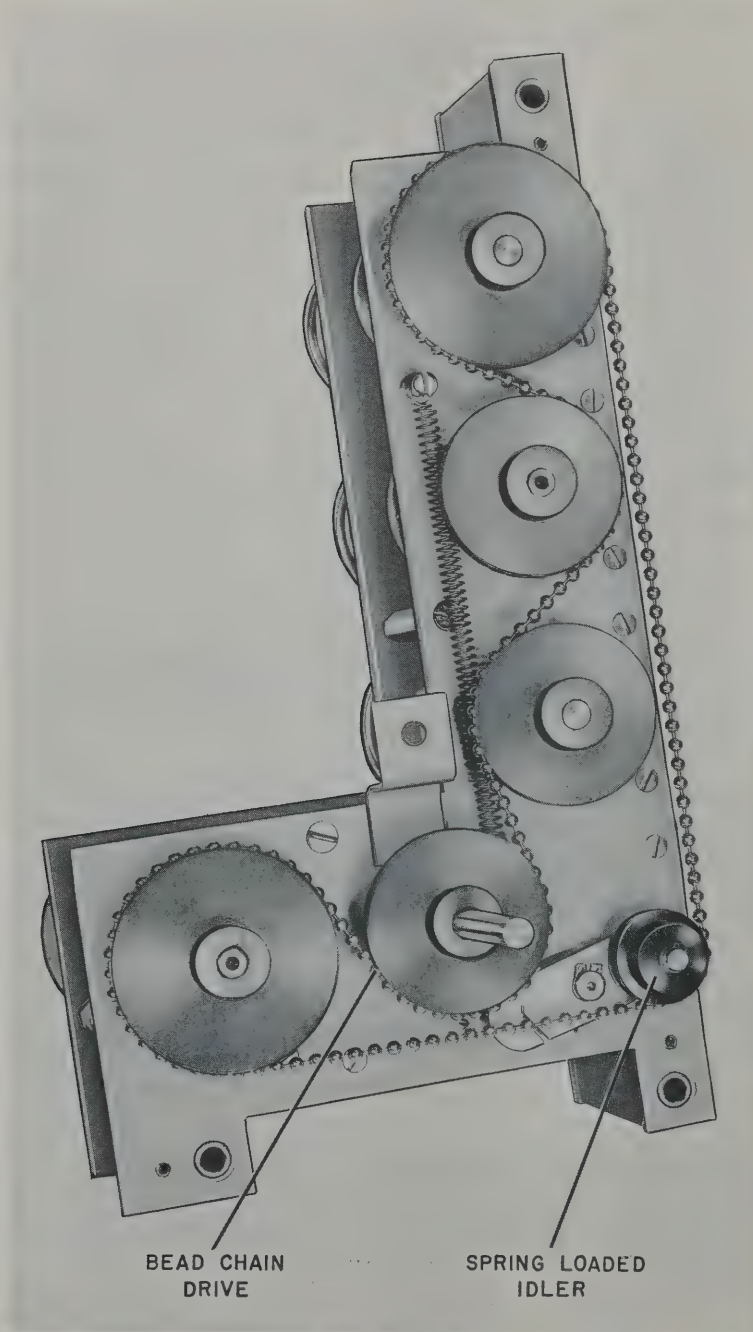

Figure 5-8. Magnetic Clutch Assembly Showing Bead Chain Path
g. Energize the clutch and verify that operation is satisfactory; energize adjacent clutches and turn the bead chain drive (figure 5-8). No motion of the unenergized clutch disc should occur.